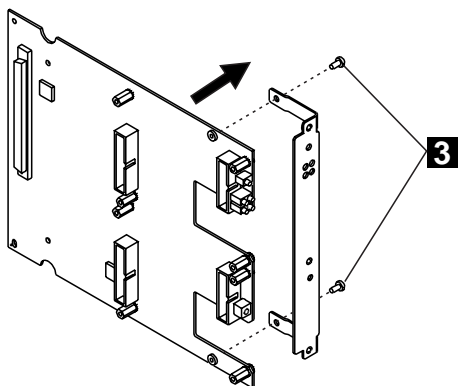

Figure 8. Removing the Dummy Faceplate Bracket
- 4 Remove the dummy faceplate bracket from the motherboard (3 in Figure 8 on page 22), retaining the screws for the new bracket. Save the dummy bracket in a safe place for future reuse.